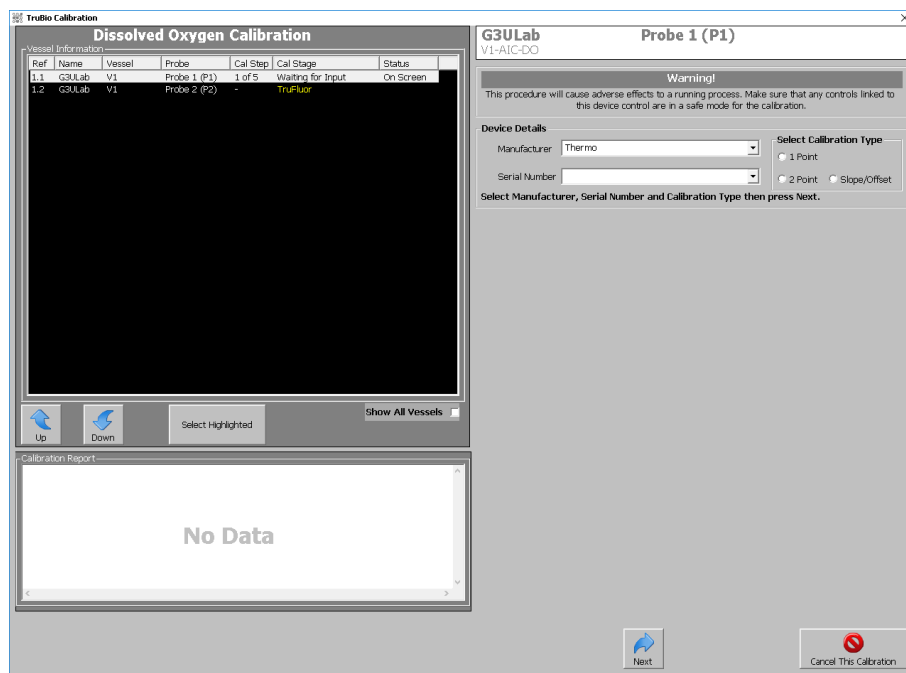

Figure 2.28. Enter probe manufacturer and serial number for DO calibration.
2. Enter the probe manufacturer and serial number either manually or using the drop-down menu (Figure 2.28) and click **Next**.